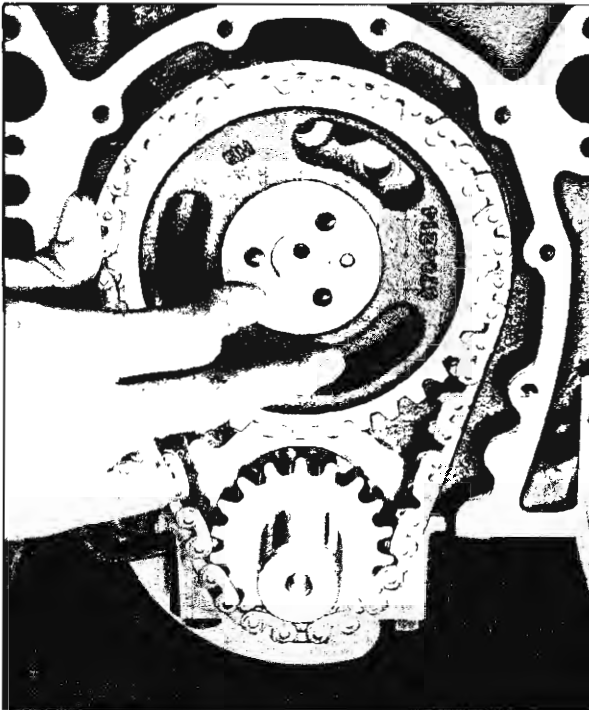

Fig. 79—Installation of Timing Chain
7. Align dowel in camshaft with dowel hole in camshaft sprocket and install sprocket on camshaft (fig. 79).